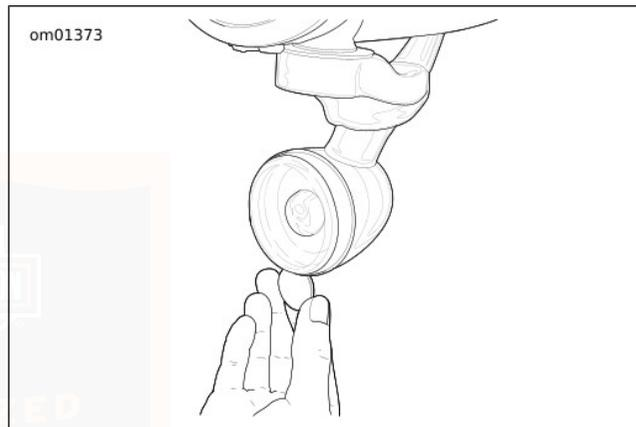

Figure 58. Lens Cap Notch
1. See Figure 58. Insert a coin or the blade of a small screwdriver into the notch at the bottom of the lens cap. Carefully twist until the lens cap pops out of the lamp housing.